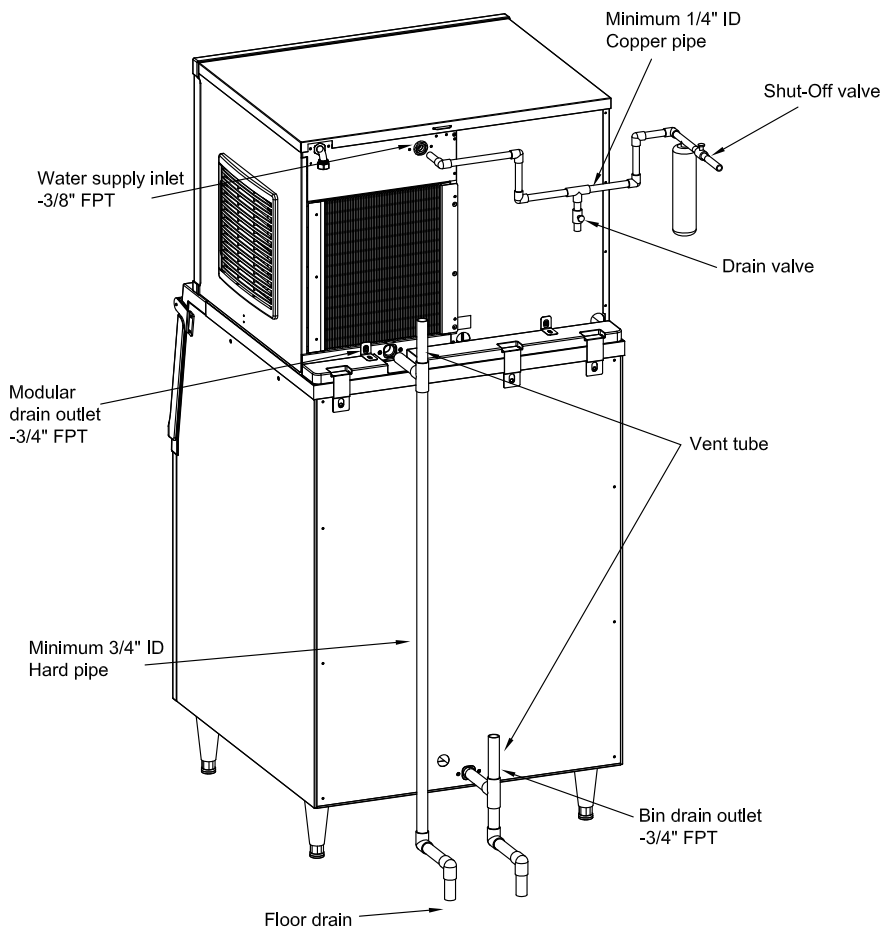

Fig 9
- Secure the bin switch (B) to the back wall of the ice maker with two thumb screws (9) as shown in Fig 9.
- Put the wire harness of the bin switch (B) through the tube (10) as shown in Fig 9.
[Fig 9]